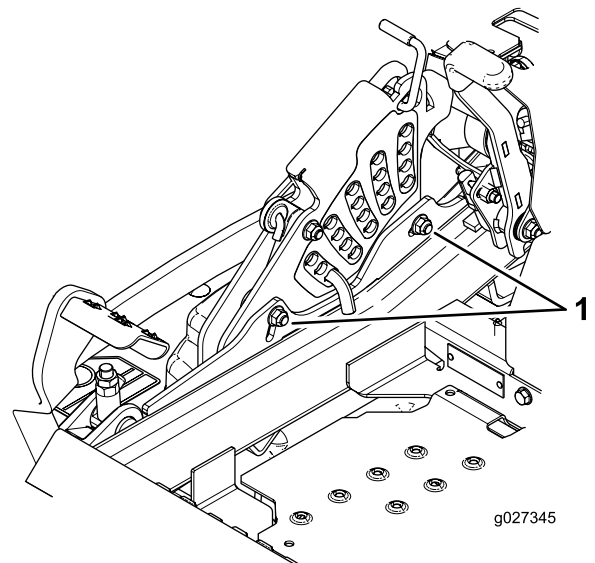

Figure 115
11. To adjust the single-point system, loosen the 2 bolts at the bottom of the height-of-cut plate (Figure 115).
13. Tighten the 2 bolts at the bottom of the height-of-cut plate (Figure 115).